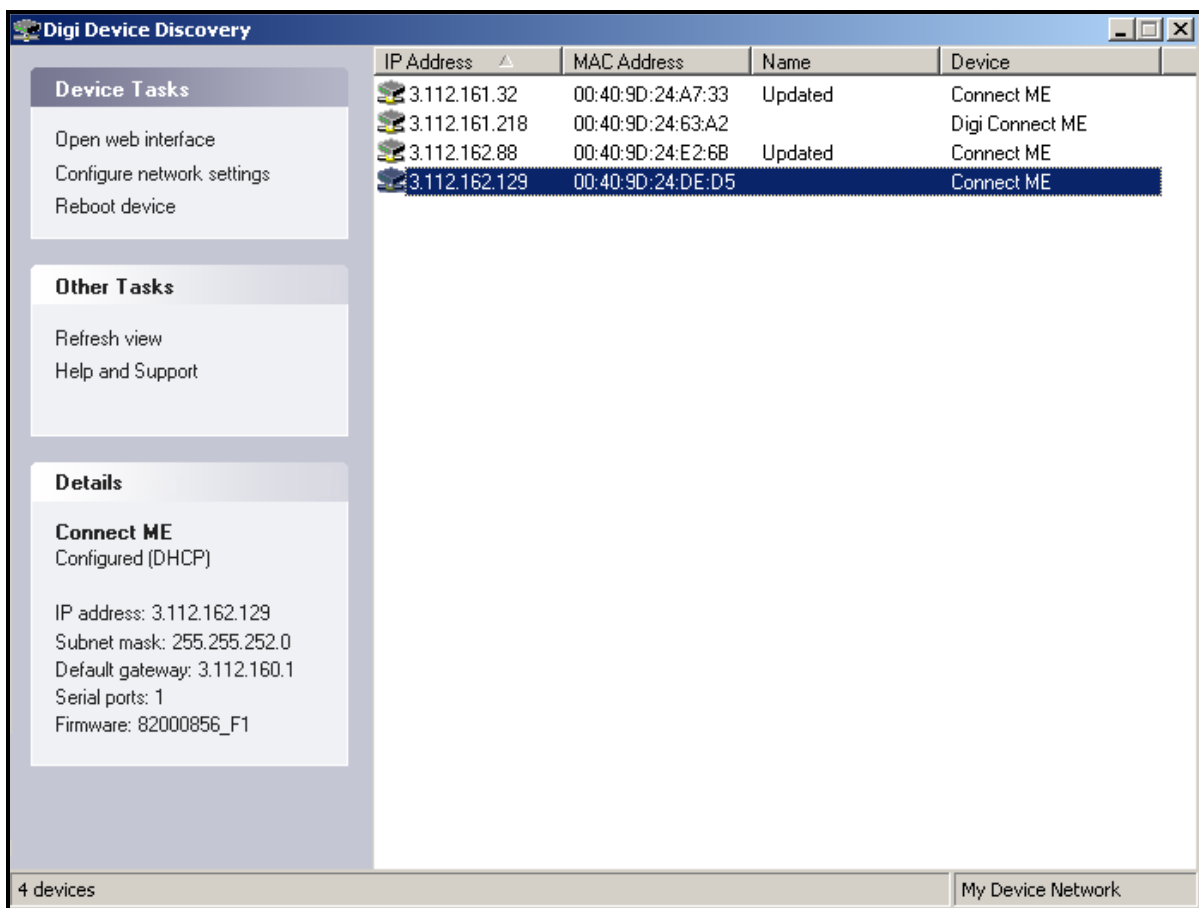

Figure 15: Finding the Assigned IP Address
1. Run the *Digi Device Discovery Program* (see Figure 15 below).